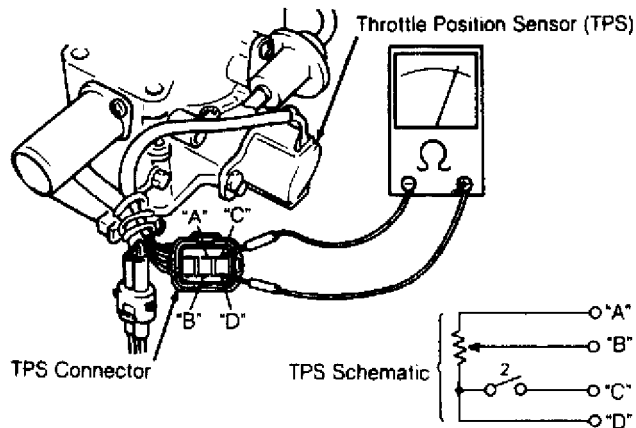

Fig. 11: Throttle Pos. Sensor (TPS) Term. ID (Samurai & Sidekick TBI)
2) Connect ohmmeter between terminals "C" and "D" of TPS connector. See Fig. 11. Loosen TPS mounting bolts, and turn TPS fully clockwise. Turn TPS counterclockwise slowly to find position ohmmeter reading changes from infinity to zero ohms. Tighten TPS mounting bolts at that position.
Disconnect negative battery cable. Disconnect TPS harness connector. Using ohmmeter, check resistance between each pair of terminals. See Fig. 11. See THROTTLE POSITION SENSOR (TPS) RESISTANCE table. If resistances are not as specified, adjust TPS. Recheck resistance between each pair of terminals. If TPS cannot be adjusted to obtain correct values, replace TPS.
1) Disconnect TPS harness connector and throttle opener vacuum hose. Using hand vacuum pump, apply 19 in. Hg vacuum to throttle opener to move throttle lever to idle position. Counting number of turns, loosen idle speed adjusting screw until clearance is obtained between throttle lever and adjusting screw. Record number of turns. Connect ohmmeter between terminals "C" and "D". See Fig. 11.